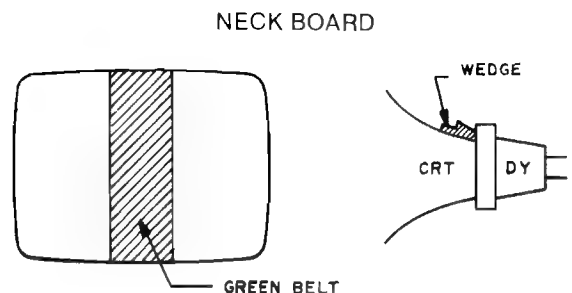

FIGURE 4
- 2.8 Pull the Deflection Yoke backward so that the Green belt will appear. (See Fig. 4)
- 2.20 Insert a wedge temporarily as shown in Fig. 4 and adjust the angle of the Deflection Yoke.